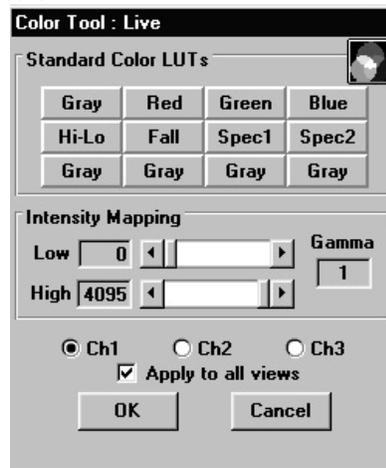

Fig. 2-64 [Color Tool] Dialog Box
2. Click the <LUT> button in the toolbar at the bottom of the screen. The [Color Tool] dialog box appears as shown in Fig. 2-64.